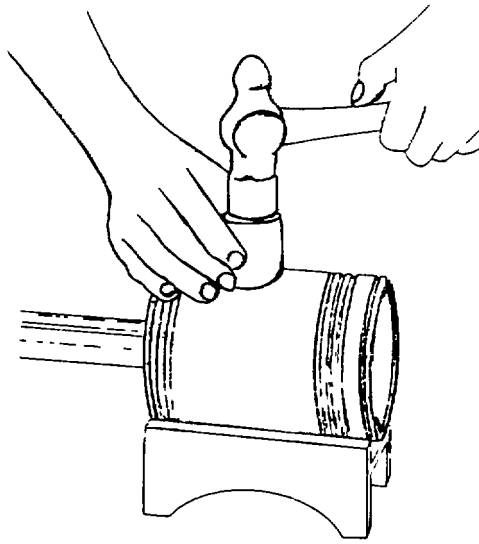

**Figure 4-28 . Installing Piston Pin .**
(4) Lubricate piston pin with clean engine oil (item 8, Appendix C) and install as shown in figure 4-28.